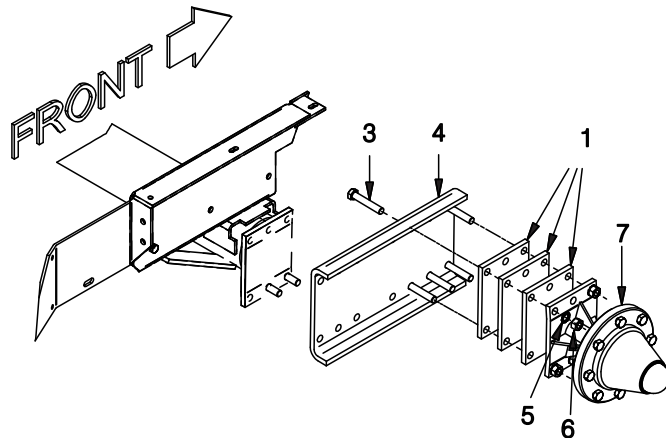

Figure 2 - Mounting Channel, Spacer's & Hub
B. Place (5) 219530 Bolts through the Mounting Channel as shown in Figure 2. Place (3) F000007636 Spacer Plate and (1) F000008003 Hub and Spindle on the mounting channel as shown in Figure 2. Secure the hub and spacer plates to the mounting channel with 5/8" star washers and nuts. Torque all nuts and bolts as per torque chart on page 1.